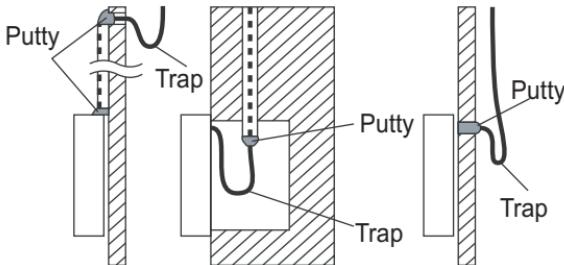

Fig. 7 — Seal the wires
1. This manual provides the wired controller installation method. Refer to the wiring diagram (see step Fig. 7 — on page 10) for guidance on wiring the wired controller to the indoor unit.
NOTE: DO NOT allow water to enter the wired control. Use a trap and putty to seal the wires (see Fig. 7).